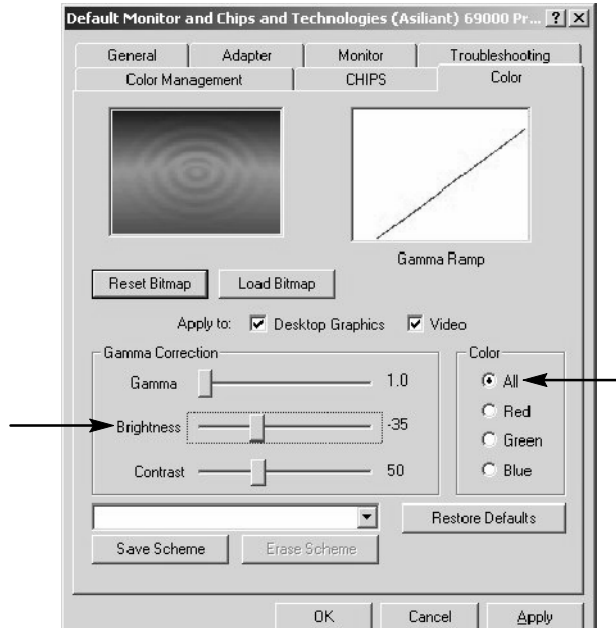

Figure 15: Brightness and button settings
6. Select the Desktop graphics and Video buttons. See Figure 15.